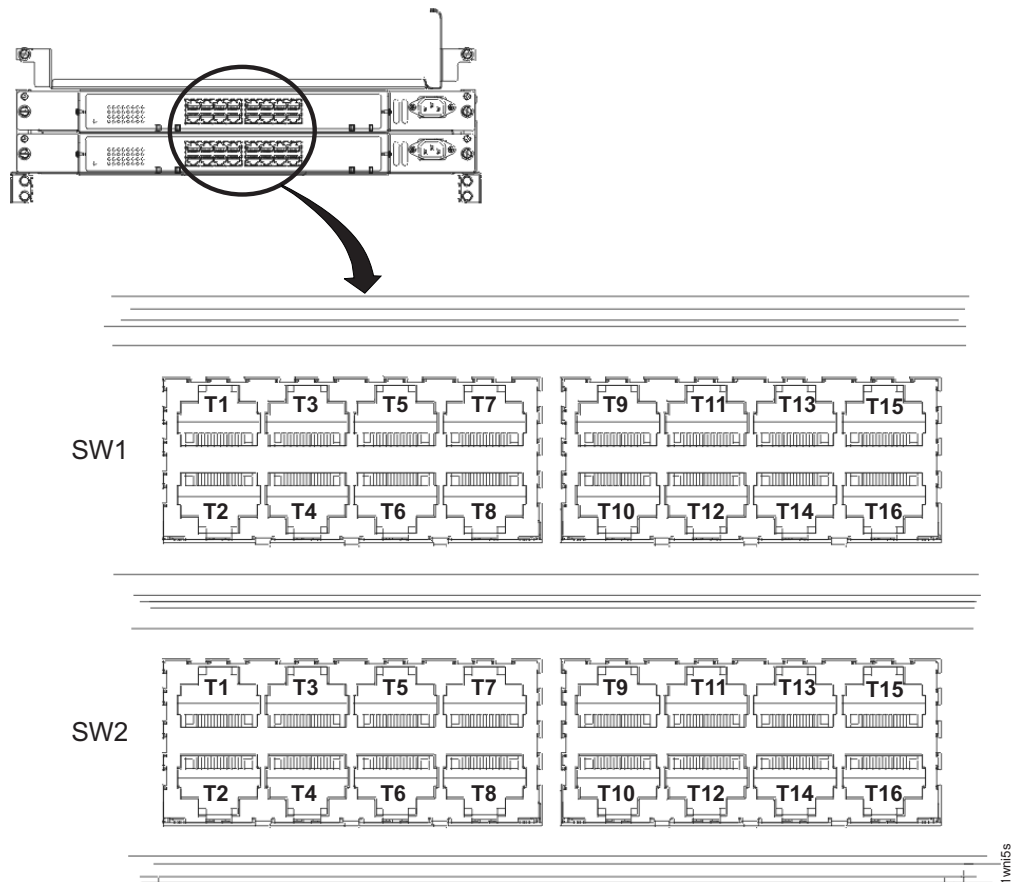

Figure 7. Ethernet switch port designations (SW1, SW2 - Tx)
- Locate the Ethernet switches in the rear of the Rack-1 that is being installed. See Figure 7.